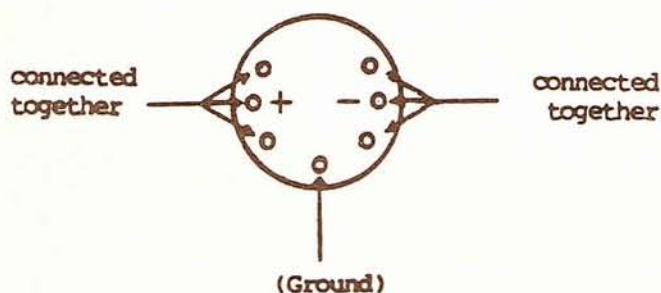
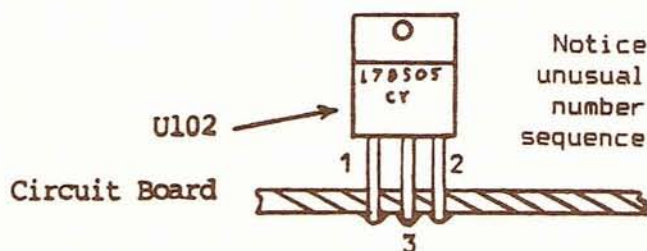

Figure 1
Figure 2
The package I received from Berkeley contained an Adaptek SCSI (Small Computer Systems Interface) disk controller board, the Berkeley DMA-to-SCSI adaptor board, four cables, and a microfloppy containing the installation and driver software. Just as promised, there wasn't a scrap of documentation in the box or on the disk. Berkeley left it to me to acquire my own hard disk and power supply. Fig. 1 diagrams the components of the system and how they interconnect logically.
My assembly method was largely dictated by the short cables provided by Berkeley. After playing with the connectors it became apparent that there was only one way things would fit together. Figure 2 (See Editor's note at end of article) graphically illustrates this connectivity; the following paragraphs provide a more detailed explanation.
By using the circuit diagram (see Figure 1) and following the construction notes which follow, you can have a "beefy" power supply which will handle any demand the 800XL can place on it. And yes, it will indeed power a RamDisk modification. As an added feature, I've included surge protection with the power supply.
Follow the schematic (see Figure 1) and wire your project carefully. Observe the polarity of the electrolytic capacitors and study the pin-out configuration of the LM323K (see Figure 2) before making the connections.
Plug the power supply back into the wall outlet and remove the power supply plug from the keyboard console. This Plug will contain seven pins as shown in Figure 1. The pins are connected in two groups of three with no connection to the middle pin. Using your voltmeter, check for the presence of 5 to 7 volts d.c. between the three pins on the left and three on the right. (Editor's Note: Don't allow the two test leads to touch each other, or you will cause a short which could cause further damage.)
The cord to the keyboard is attached to the end of the circuit board at points labeled GND and +5V. With the power supply plugged into the wall outlet, use your voltmeter to test for 5.0 to 7.0 volts d.c. across these two points. If the proper voltage and polarity are present between these points, then your console cord and plug are defective and must be replaced. When you have replaced the plug and cord, use your voltmeter to check for proper polarity, as shown in Figure 1, before hooking up the keyboard console again.
If, when you checked the secondary wired near the fuse, you found the 10-15 v.a.c. to be present you should skip the 110 v.a.c. test. Instead locate (IC) U102 which is attached to the black finned heat sink. It will look like Figure 2.